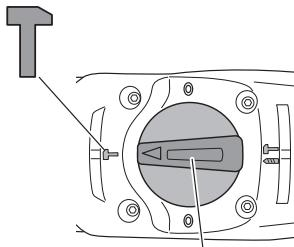

Fig. 8 Selector lever
- Align **△** of the selector lever and **T** of the crank cover as illustrated in Fig. 8.